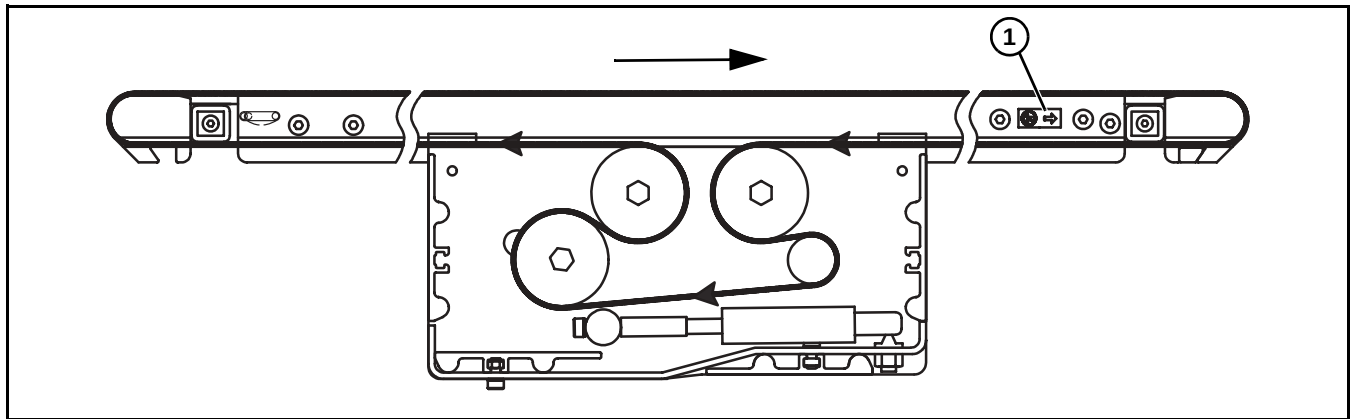

Figure 30
On a center drive conveyors, belt travel direction is identified by an arrow decal on the side of the conveyor (Figure 31, item 1) & (Figure 30, item 1).